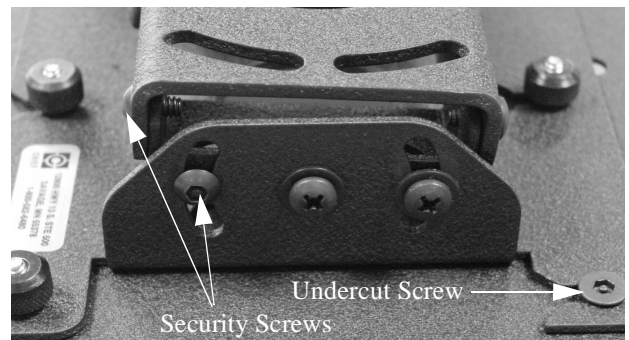

Figure 11. Security Screws
5. Using security wrench (provided), replace screws in SLB with undercut security screws (see Figure 11).